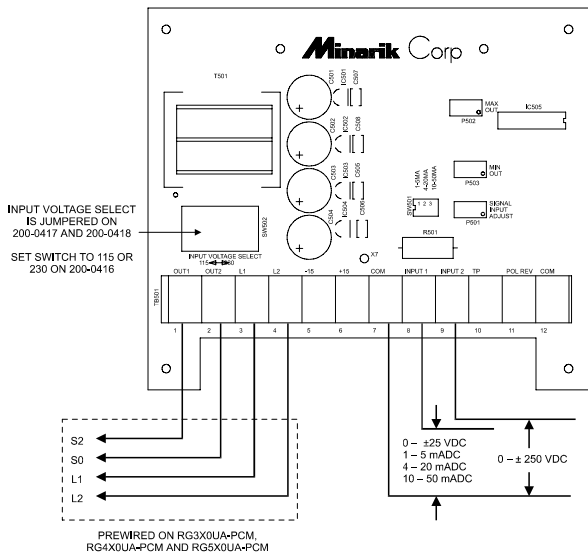

Figure 6. Process Control Module Connections
See Figure 6 for PCM connections. PCM terminals 1 through 4 are prewired if you are using RG3X0UA-PCM, RG4X0UA-PCM, or RG5X0UA-PCM drives.
Set the input voltage select switch SW502 to 115 or 230 to match the AC line voltage. This applies only to PCM model number 200-0416, used with RG500 series drives. See Figure 6 for switch locations.
- b. For $0 - \pm 25$ VDC input signal, connect the signal positive (+) to INPUT 1 (terminal 8); for $0 - \pm 250$ VDC input signal, connect the signal positive to INPUT 2 (terminal 9). Refer to Figure 6.